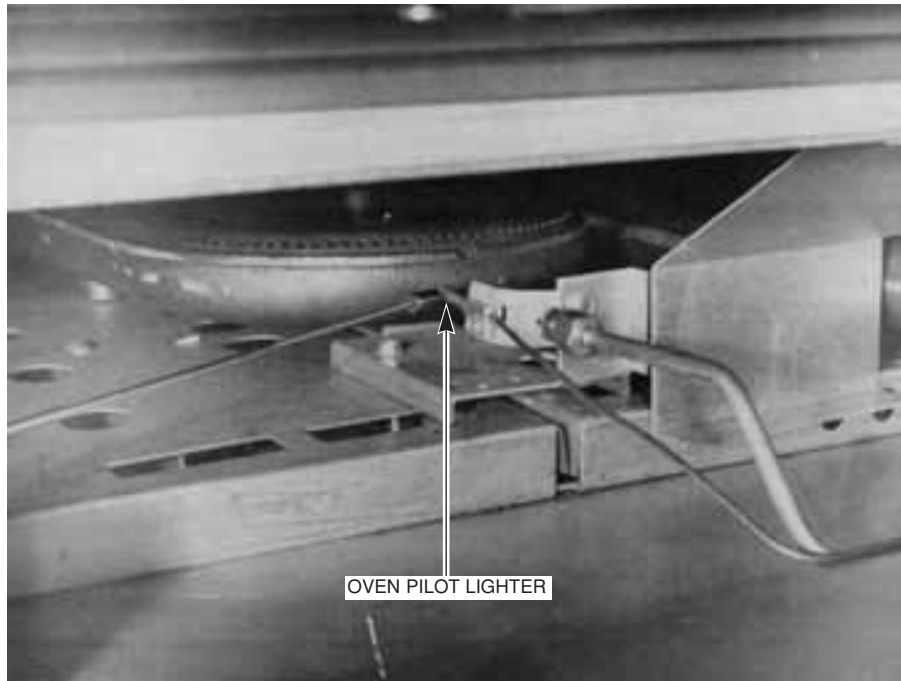

Fig. 5
3. Wait 5 minutes, then turn burner valve ON and depress ignition button. Using a lit taper, ignite oven pilot (Fig. 5). Continue to hold button in for approximately 30 seconds, then release.